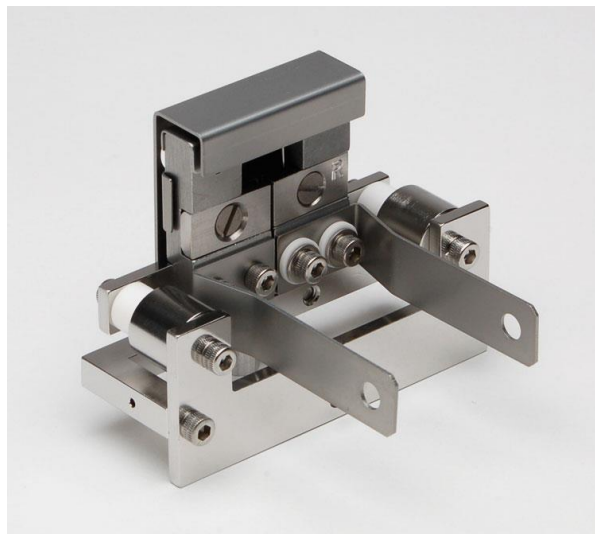

Figure 5 Emitter Assembly
- 1** Length of screws. All screws must be clean and of correct length. (Refer to Figure 5-A) Tighten screws so that they are just snug. Do not overtighten screws going into or through ceramics. The ceramics will break, the resulting loss of ceramics can be both frustrating and expensive.